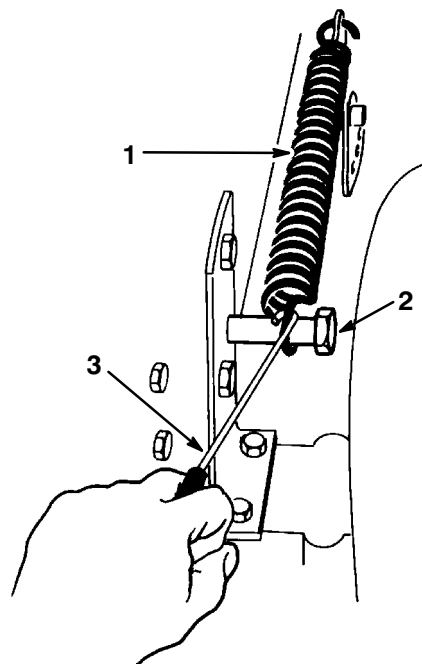

Figure 36
4. Remove the height-of-cut lift assist spring from the retaining bolt (Fig. 36), using the spring tool provided with the machine. The spring is between the frame and the right rear wheel.
13. Move the height-of-cut lever (deck lift) into the “D” notch. Hook lift assist spring onto retaining bolt for storage (Fig. 36).
15. Hook the height-of-cut lift assist spring onto the retaining bolt (Fig. 36), using the spring tool provided with the machine.